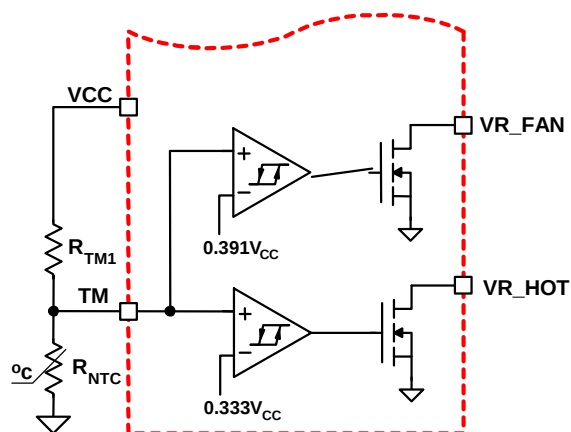
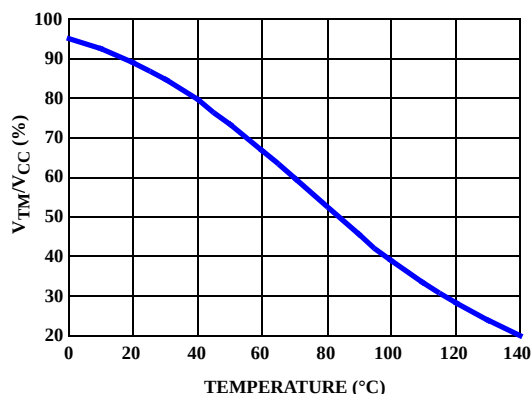

FIGURE 12. BLOCK DIAGRAM OF THERMAL MONITORING FUNCTION
FIGURE 13. THE RATIO OF TM VOLTAGE TO NTC TEMPERATURE WITH RECOMMENDED PARTS
The diagram of thermal monitoring function block is shown in Figure 12. One NTC resistor should be placed close to the power stage of the voltage regulator to sense the operational temperature, and one pull-up resistor is needed to form the voltage divider for the TM pin. As the temperature of the power stage increases, the resistance of the NTC will reduce, resulting in the reduced voltage at the TM pin. Figure 13 shows the TM voltage over the temperature for a typical design with a recommended 6.8kΩ NTC (P/N: NTHS0805N02N6801 from Vishay) and 1kΩ resistor RTM1. We recommend using those resistors for the accurate temperature compensation.
Based on VCC voltage, ISL6334, ISL6334A converts the TM pin voltage to a 6-bit TM digital signal for temperature compensation. With the non-linear A/D converter of ISL6334, ISL6334A, the TM digital signal is linearly proportional to the NTC temperature. For accurate temperature compensation, the ratio of the TM voltage to the NTC temperature of the practical design should be similar to that in Figure 13.
1. Properly choose the voltage divider for the TM pin to match the TM voltage vs temperature curve with the recommended curve in Figure 13.